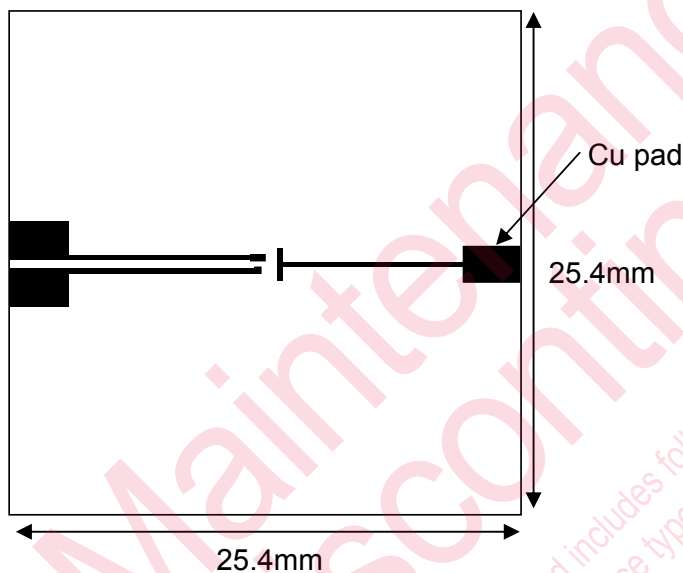

Figure2: Glass epoxy board typeB
*3 When mounted on glass epoxy board typeB (Refer to Figure2)